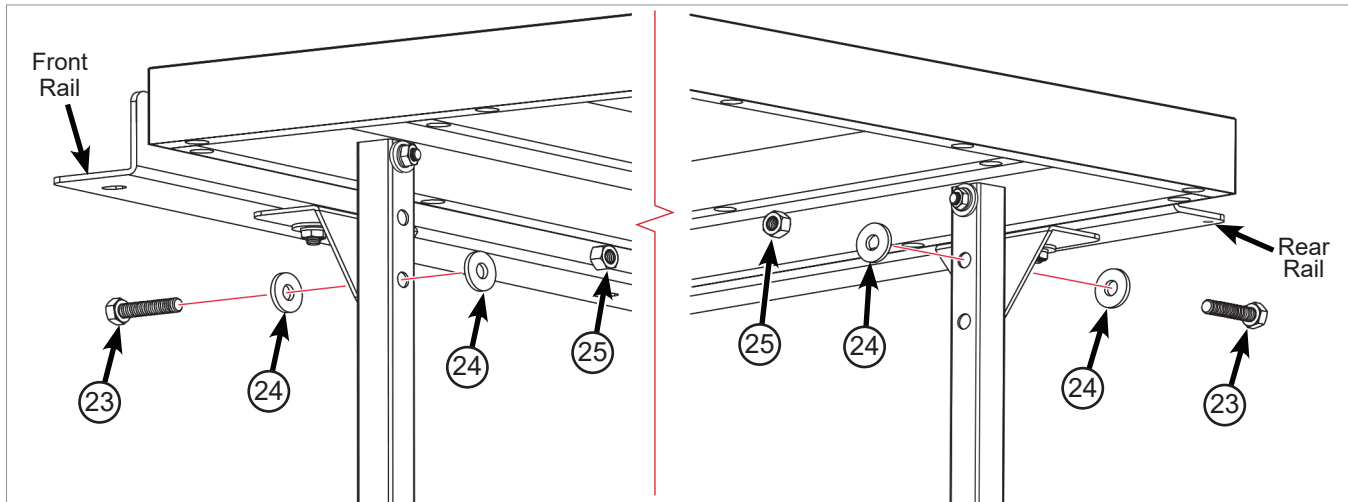

Fig. 23
13. Attach each support leg to the corresponding leg support bracket with an M10 x 40 hex head bolt, two M10 washers, and an M10 lock nut, as shown in **Fig. 23**, and fully tighten the bolts using two 17 mm wrenches. Note that the leg support brackets align with different holes in the front and rear legs because the brackets are at different elevations.